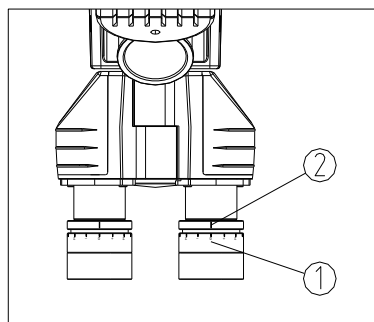

Fig. 16
Align the scale “0” of the diopter ring ① on the diopter adjustable eyepiece with the scale ② of the eyepiece sliding base, and make the image clear by focusing. Then observe the other side eyepiece, if the image is not clear enough, rotate the diopter ring until the image is clear. (See Fig.16)